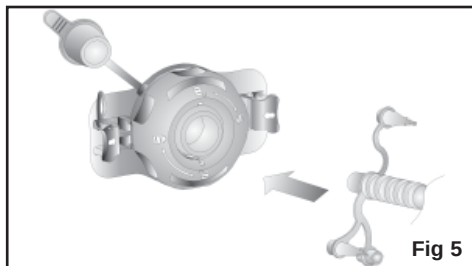

Fig 5
10. Insert the nozzle of an air pump into the inflation valve. See Fig 5.